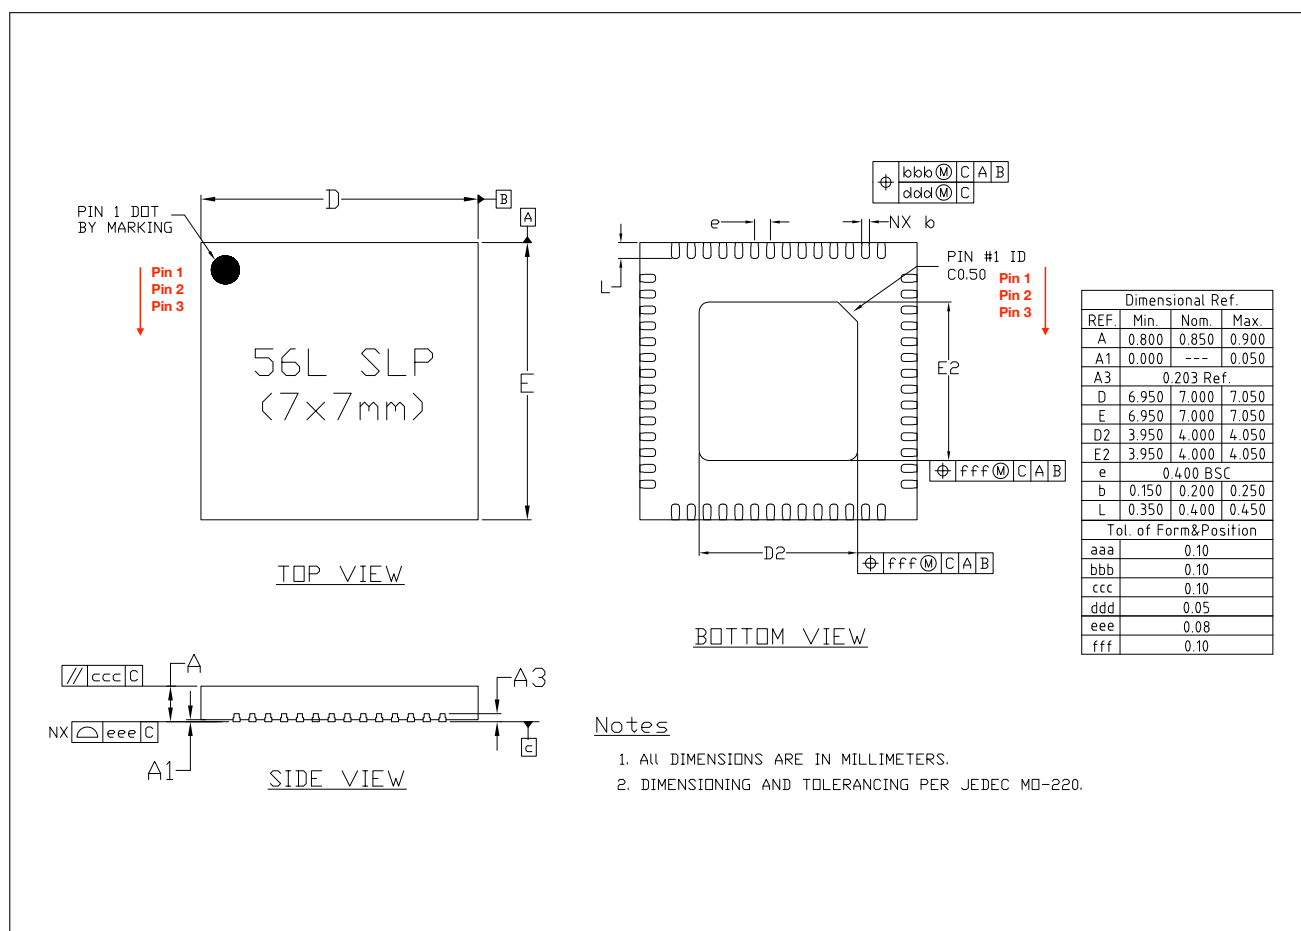
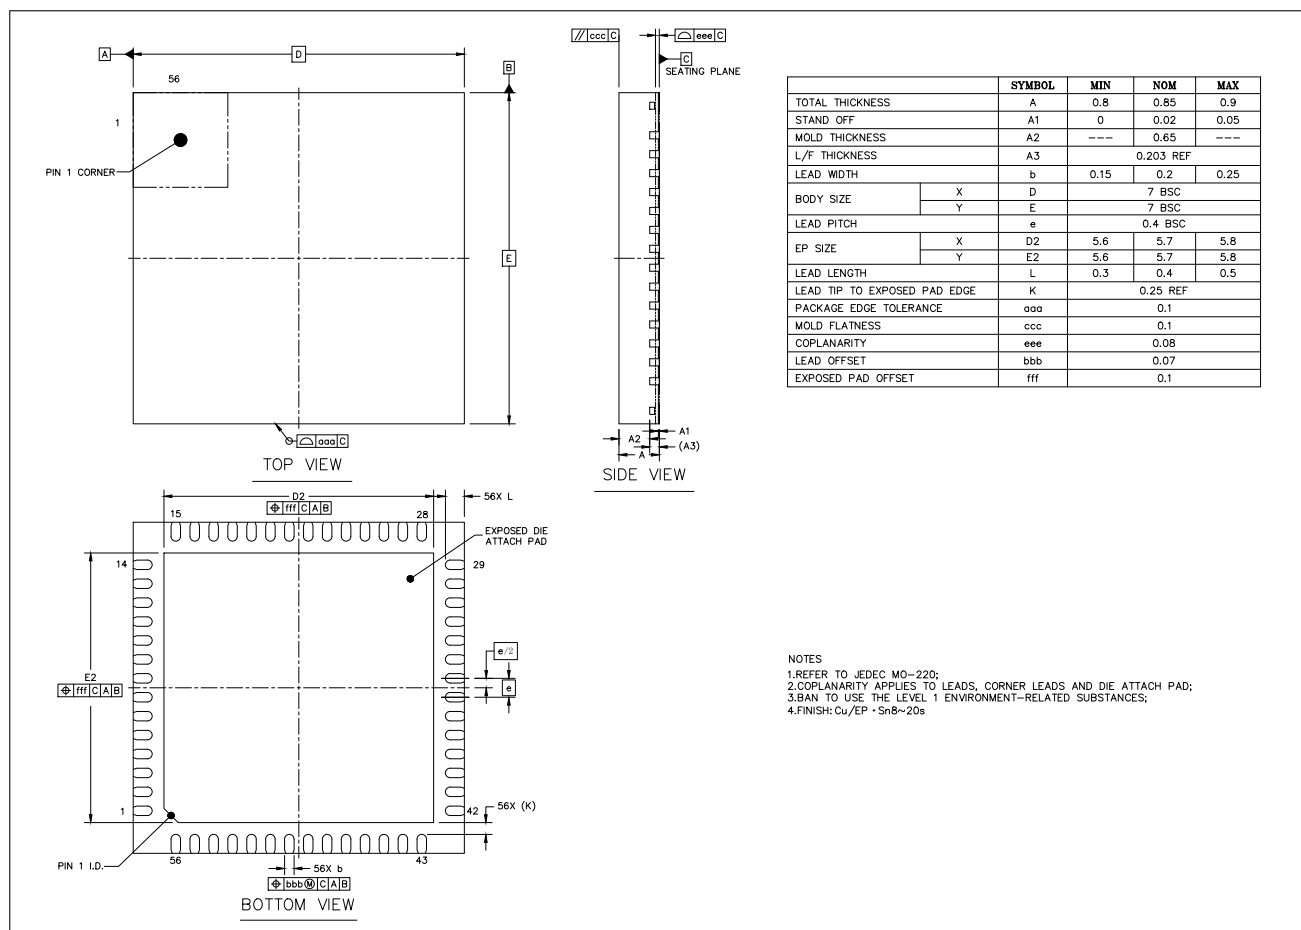

Figure 7-1. QFN56 (7x7 mm) Package
Figure 7-2. QFN56 (7x7 mm) Package (Only for ESP32-S3FH4R2)
- All ESP32-S3 chip variants have identical land pattern (see Figure 7-1) except ESP32-S3FH4R2 has a bigger EPAD (see Figure 7-2). The source file \(asc\) may be adopted for ESP32-S3FH4R2 by altering the size of the EPAD (see dimensions D2 and E2 in Figure 7-2).